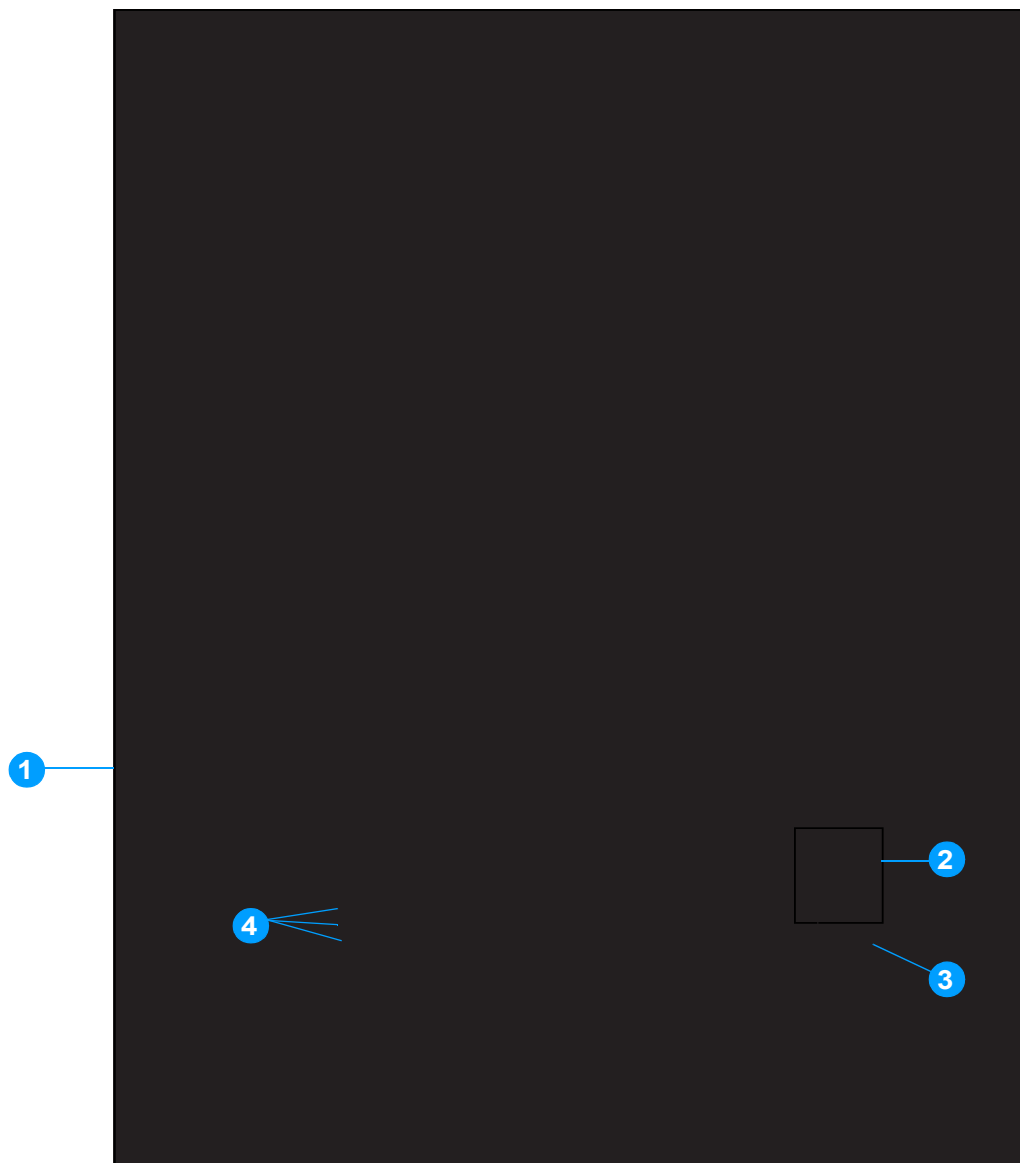
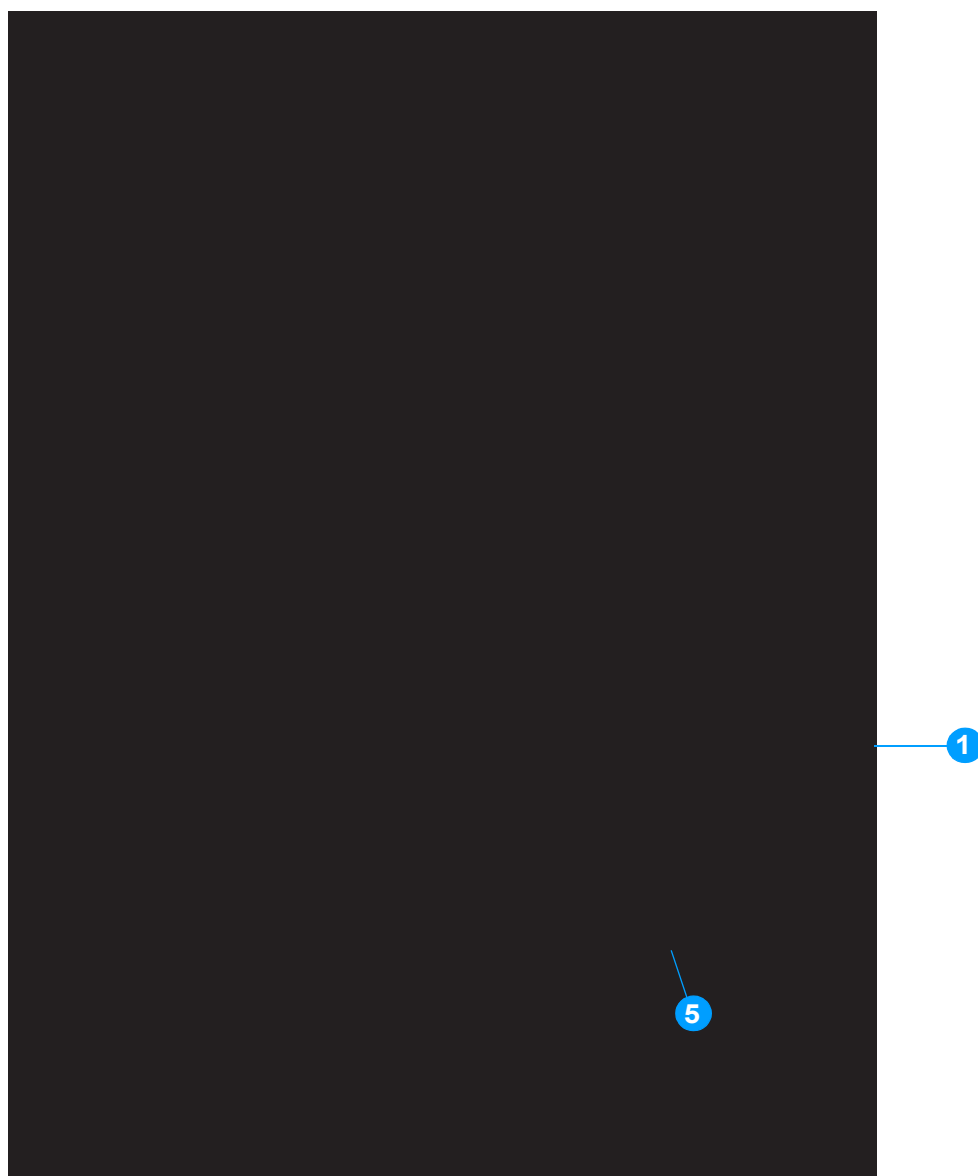

Figure 8-13 Cassette (1 of 2)
Figure 8-14 Cassette (2 of 2)
Table 8-14 lists parts shown in Figure 8-13 and Figure 8-14. If you order a replacement cassette (item 1), you will receive all parts shown in both figures.